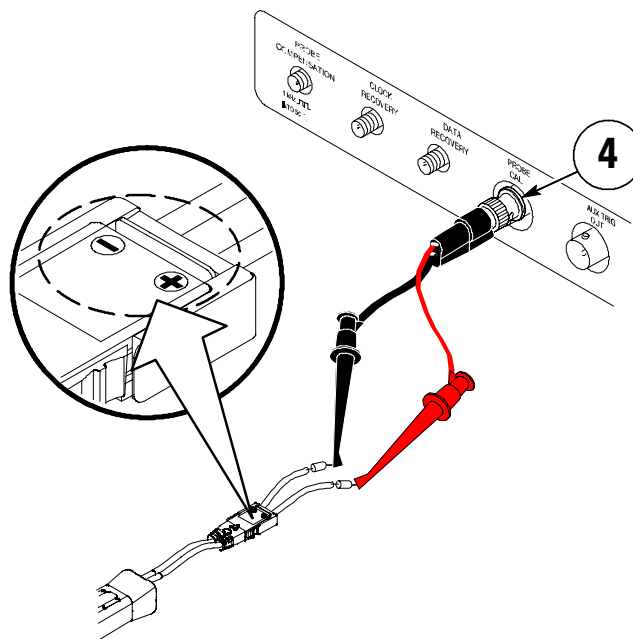

Figure 7: Connect the probe for probe calibration (TDS6000B/C shown)
4. Connect the BNC-to-Minigrabbers to the oscilloscope PROBE CAL connector as shown in Figure 7.